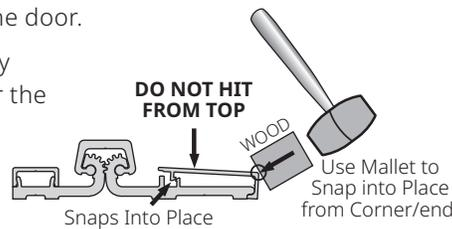

FIGURE 1
5. Install the six (6) #12-24 x $\frac{3}{4}$ " self drill/tapping or 10-1 SMS wood screws in the six (6) $\frac{7}{32}$ " holes located in the door leaf portion of the hinge.
8. Open the door. Enlarge the $\frac{5}{16}$ " holes on the hinge face of the door using a $\frac{3}{8}$ " dia. drill. Finish attaching door leaf portion of PemkoHinge® to the face of the door using the four (4) thru-bolts and shoulder bolts. Thru-bolts attach from non-secure side shoulder bolts attach from the secure side of the door.
9. To complete the installation, secure the cover by hooking the edge away from hinge gears under the door leaf and then snap the other edge over using a rubber mallet on far side, working from top to bottom. Adjust so top of cover is flush with top of hinge (**Figure 1**).